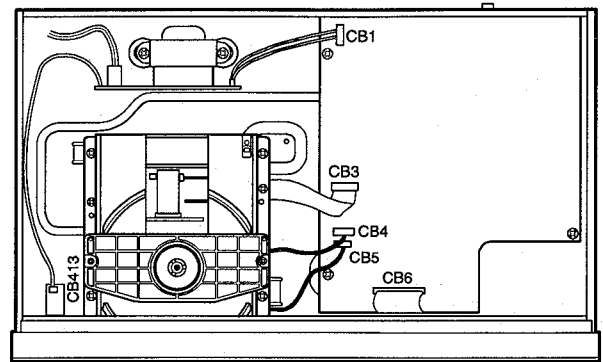

Fig. 2
- a. Press the OPEN/CLOSE key and open the tray. Then remove the Lid attached to the front edge of the tray in Fig. 2. Press the OPEN/CLOSE key and close the tray, then unplug the power cord.
- b. Remove 2 connectors (CB6, CB413) in Fig. 2.
- a. Remove 3 connectors (CB3, CB4, CB5) in Fig. 2.